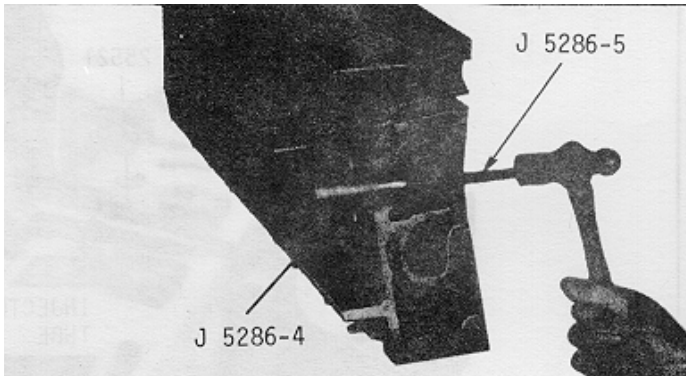

Fig. 1 Removing Injector Tube
The bore in the cylinder head for the fuel injector is directly through the cylinder head water jacket as shown in Fig. 1. To prevent coolant from contacting the injector and still maintain maximum cooling of the injector, a tube is pressed into the injector bore. This tube is sealed at the top with a neoprene ring and upset into a flare on the lower side of the cylinder head to create water-tight and gas-tight joints at the top and bottom.
- (1) Remove, disassemble and clean the cylinder head as outlined in SM1-63-5.0.
- (2) Place the injector tube installer J 5286-4 in the injector tube. Insert the pilot J 5286-5 through the small opening of the injector tube and thread the pilot into the tapped hole in the end of the installer (Fig. 1).
- (3) Tap on the end of the pilot to loosen the injector tube. Then lift the injector tube, installer and pilot from the cylinder head.